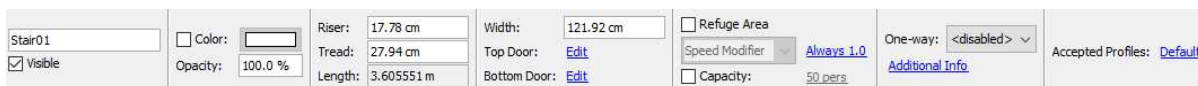

Figure 62. Stair property panel
Stairs have a number of properties that control their geometry and behavior of occupants that travel on them. When a stair is selected, these properties can be seen in the stair’s property panel as shown in Figure 62.
2. Select the stair (or several) so its properties are visible in the property panel as shown in Figure 62.